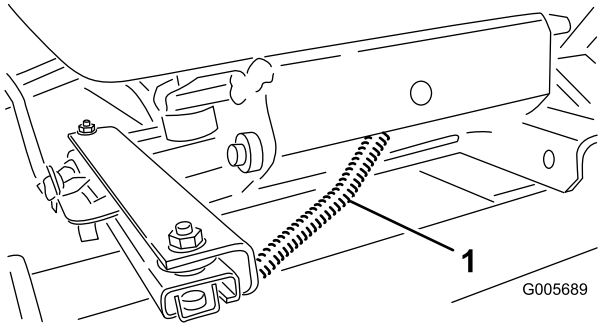

Figure 13
- 7. Route seat switch harness through holes in seat support and seat suspension (Figure 13). Plug wire harness connector into seat switch connector on bottom of seat.